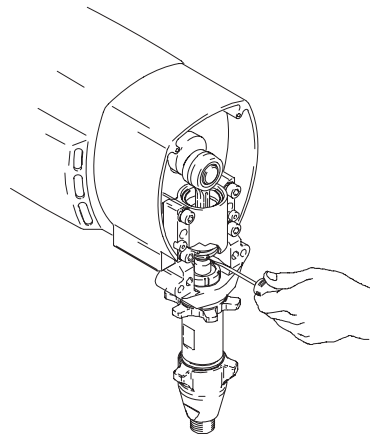

Fig. 25 7674A
3. Fig. 25. Push retaining spring into groove all the way around connecting rod.